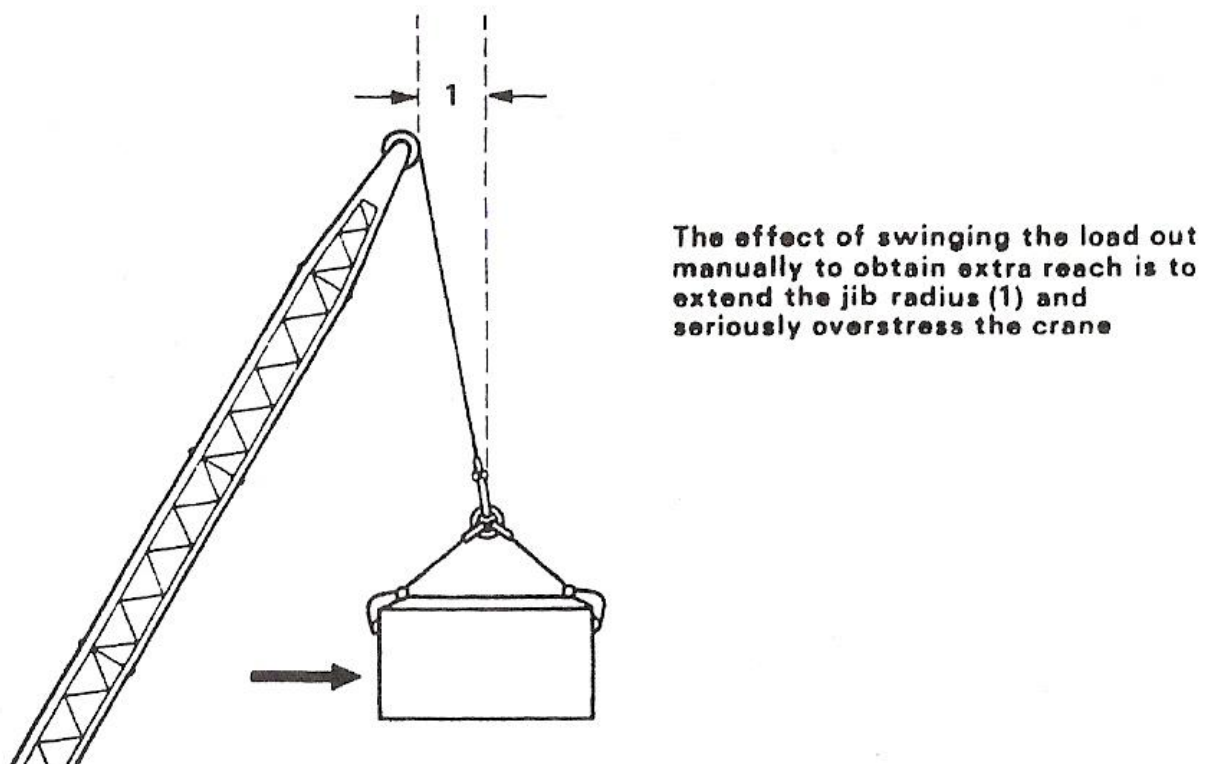

Figure 5 - Effect of Over-Reaching the Jib
1. Loads should only be lifted vertically. It is a hazard to swing loads out manually to gain additional radius, for in doing so the effect is to extend the length of the jib and throw stresses on the crane for which it was not designed. This effect is shown in Figure 5.